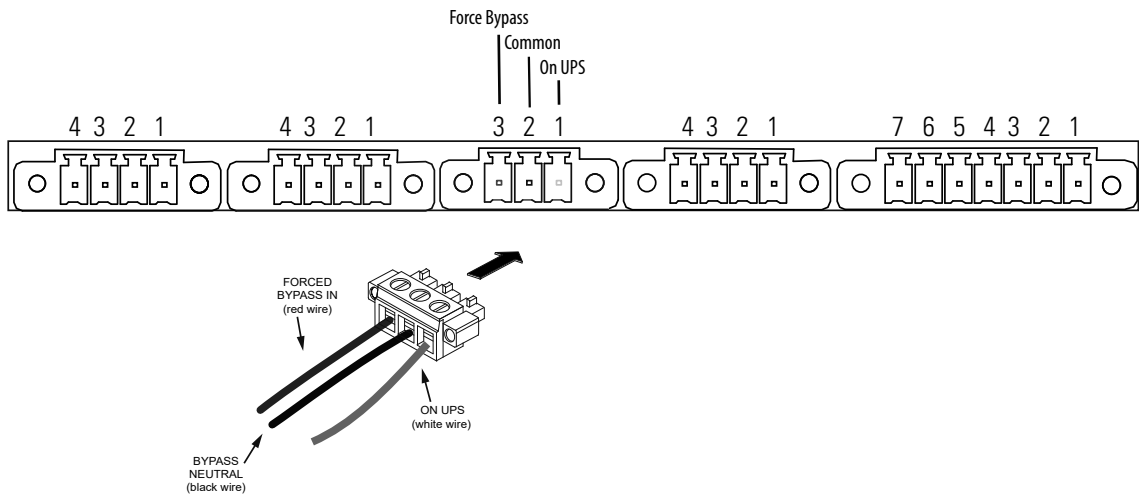

Figure 21. Three-Pin BPM to UPS Connector
- b. Install the 3 pin connector into the 9PXM UPS BPM CN13 connector (see Figure 21).